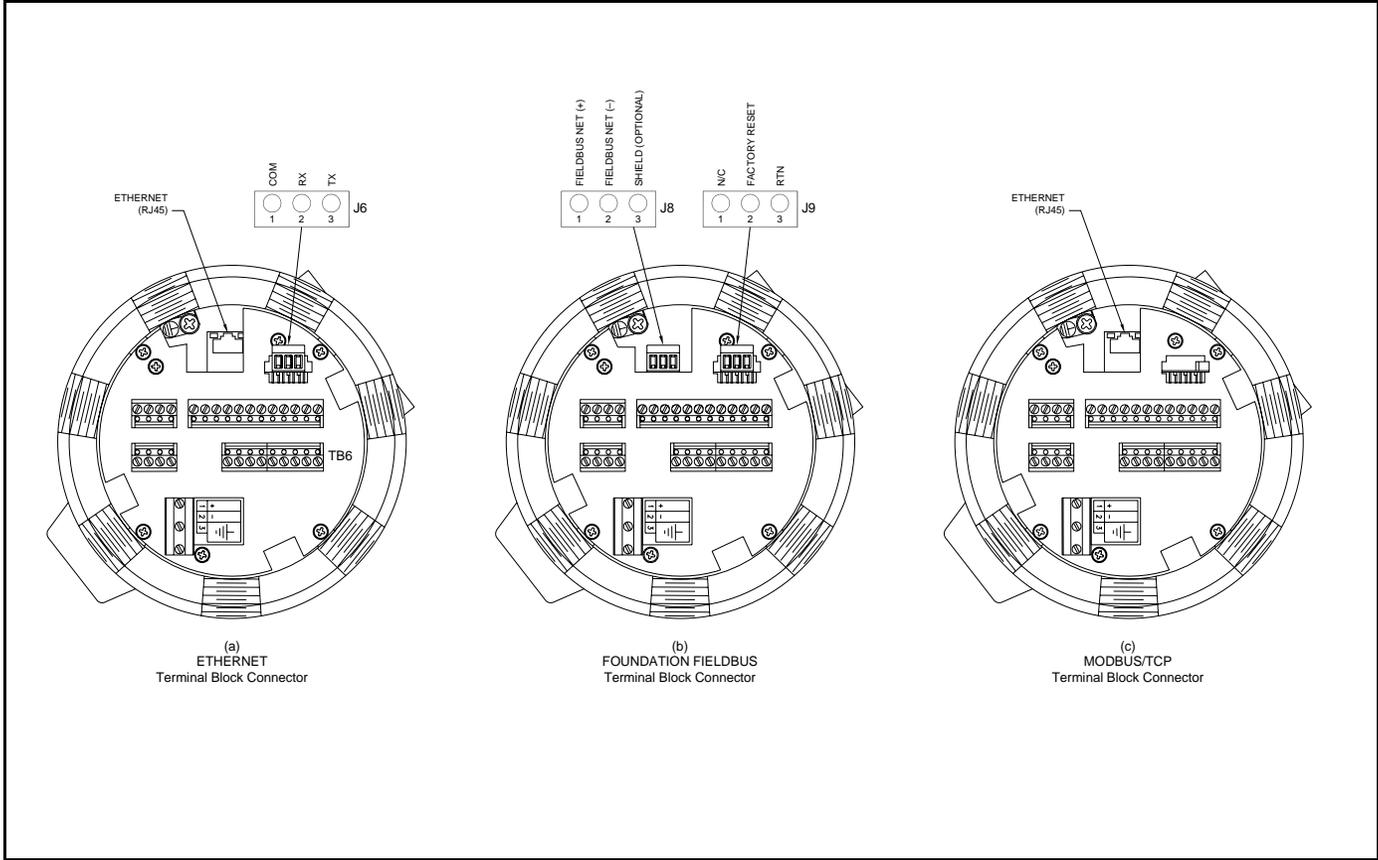

Figure 1-13: Ethernet, Foundation Fieldbus and MODBUS/TCP Terminal Block Connections
Customers can also use a modified XGM868i that provides a MODBUS/TCP interface to communicate to an internal network. An optional MODBUS/TCP card with a unique MAC (IP) address (installed only in slot 2) includes an RJ45 connector. To connect the MODBUS/TCP-enabled XGM868i to the network, insert the jack of an RJ45 cable into the RJ45 connector, route the cable through one of the conduit holes using an appropriate cable clamp, and wire the other end of the cable to the Ethernet network according to the manufacturer's instructions. See Figure 1-13 on page 1-30.
A modified XGM868i can use the Ethernet interface to communicate to a local area network. An optional Ethernet card with a unique MAC (IP) address (installed only in slot 2) includes an RJ45 connector. To connect the Ethernet-enabled XGM868i to the network, insert the jack of an RJ45 cable into the RJ45 connector, route the cable through one of the conduit holes using an appropriate cable clamp, and wire the other end of the cable to the Ethernet network according to the manufacturer's instructions. An external connection is required between the Ethernet option card and the XGM868i's RS232 connector, as shown in Table 1-5 below and Figure 1-13 on page 1-30.
To connect the Foundation Fieldbus interface to the XGM868i, make the network connections at J8, pins 1 and 2, as shown in drawing Y of Figure 1-13 on page 1-30. As an option, you can connect a shield to J8 pin 3, depending on the network wiring.